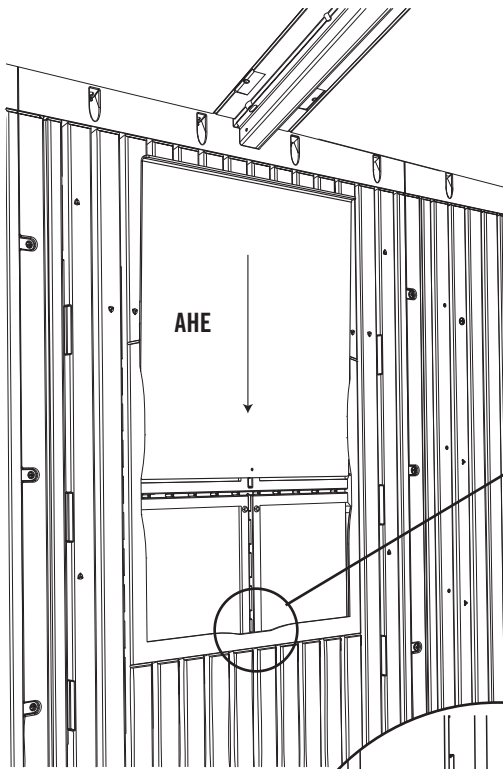
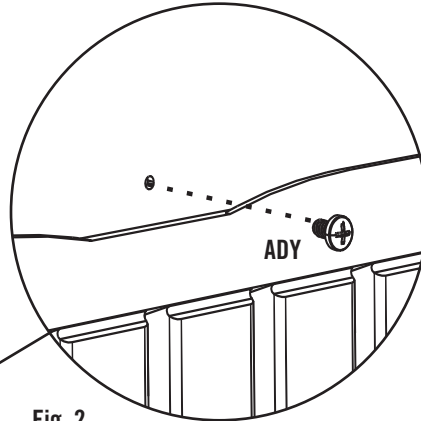

Fig. 1
Fig. 2
Remove the plastic protective film from **both sides** of the **Window (AHE)** and slide the Window into the grooves along the sides of the opening in the Window Wall Panel (Fig. 1). Insert the **#10 x 3/8" Pan-Head Screw (ADY)** into the hole at the bottom of the Window (Fig. 2) until flush. Attach a **Window Latch (AIS)** above each corner of the Window as shown. When tightening the four (4) **1/4" x 5/8" Pan-Head Screws (ADZ)**, ensure the Window Latches slide freely (Fig. 3). Do not overtighten. **Repeat this step for the second Window.**